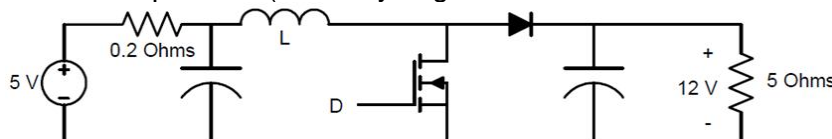

Figure 4.1 Boost converter
8. Figure 4.1 shows a boost (up) converter supplying 12 V to a load of $5 \, \Omega$ from a 5 V source having an internal resistance of $0.2 \, \Omega$. Determine the duty ratio D at which the converter operates. (You may neglect semiconductor device drops in your calculations.)